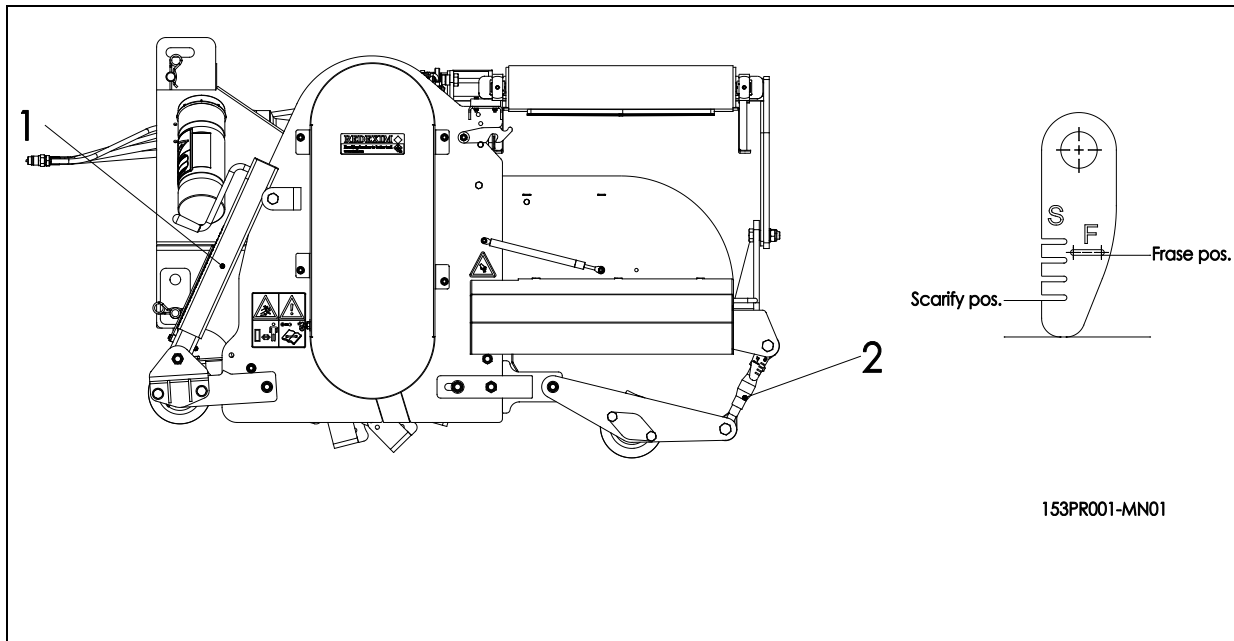

Figure 11
1. Adjust the rear spindles 2 at the Frase position, use the indicator (see Figure 11) and lock the spindles by turning the spindle nut
1. Adjust the rear spindles 2 at the Scarify position, use the indicator (see Figure 11) and lock the spindles by turning the spindle nut